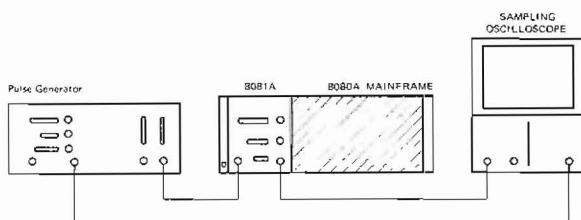

Figure 4–6. External Trigger Mode (Fast) Test Setup
1. Set up the equipment as shown in figure 4–6 and set the controls as follows: